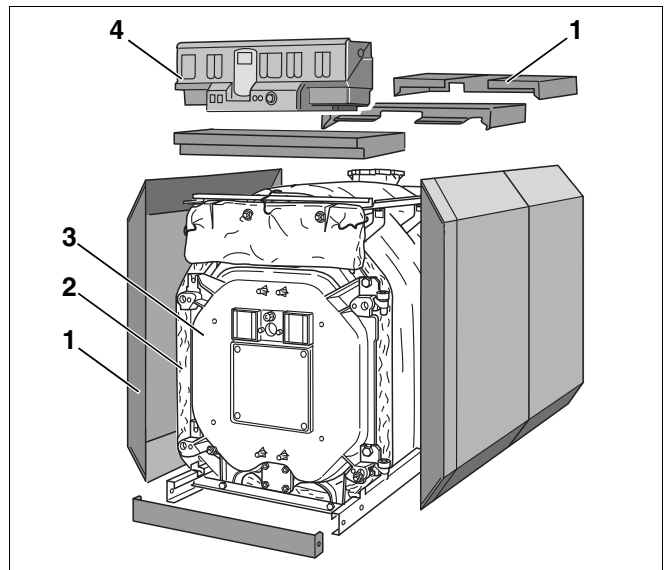
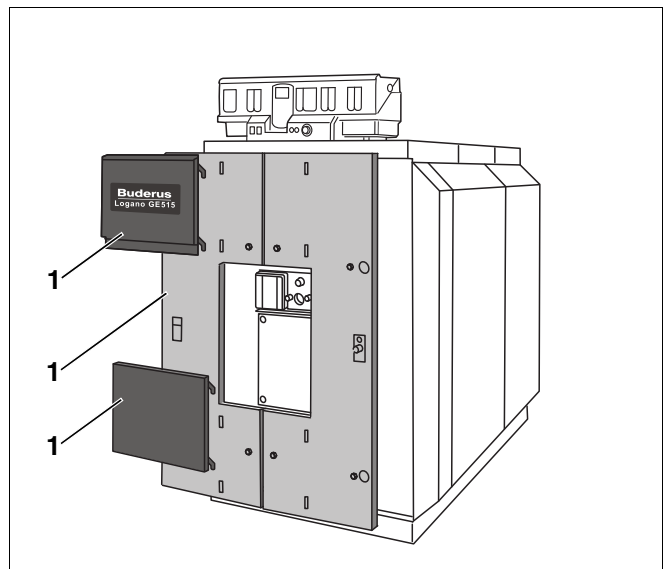

Fig. 1 Logano GE515 oil-/gas-fired special boiler
Fig. 2 Logano GE515 oil-/gas-fired special boiler
- Boiler block (Fig. 1, [3]).
- Boiler shell (casing, Fig. 1 and Fig. 2, [1]), lagging (Fig. 1, [2]).
- Control unit (Fig. 1, [4]).